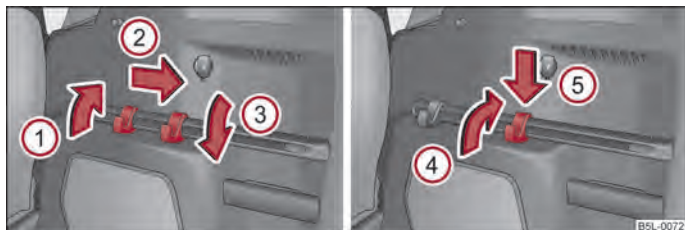

Fig. 59 Luggage compartment: Fastening strip with moveable hook/remove hook
A fastening strip is located on both sides of the luggage compartment with two moveable hooks each, in order to attach small items of luggage, such as bags etc. ⇒ fig. 59. An item of luggage weighing up to 7.5 kg can be attached to each hook.
- Fold up the hook in direction of arrow ① ⇒ fig. 59 until an angle of approx. 45° is reached.
- Move the hook in direction of arrow ② ⇒ fig. 59 into the desired position and fold down the hook as far as the stop in direction of arrow ③.
- Fold up the hooks on the fastening strip in direction of arrow **1** ⇒ fig. 59.
- Fold down the hooks in direction of arrow **3** as far as the stop ⇒ fig. 59.